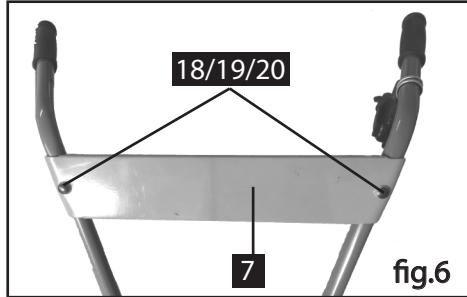

fig6
5. Install the safety plate with 2x M 6*35 screws, washers and flange nuts.(Fig.6)